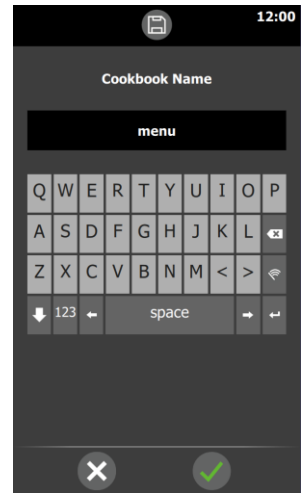

Figure 13
- The input limitations for Cookbook name entry shall be 1 line with a maximum of 10 characters per line. (Figure 13)